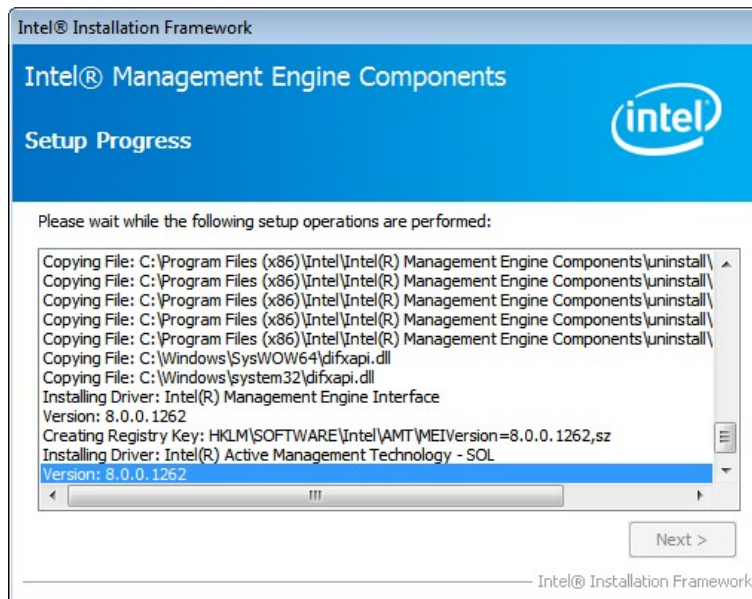

Figure 6-30: Intel® ME Driver Setup Operations
Step 9: Setup Operations are performed as shown in Figure 6-30.